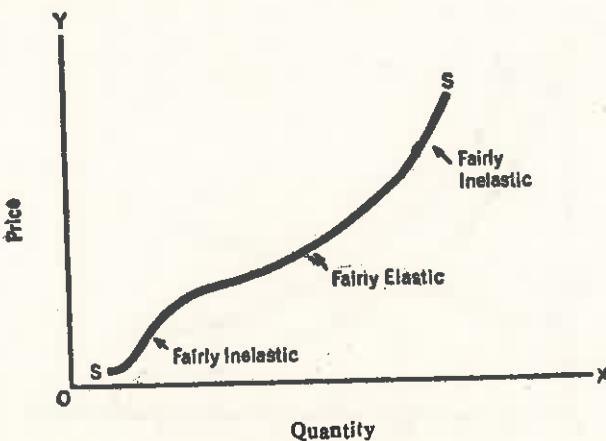

Fig. 35.6. Supply curve with varying elasticity.
- Fig. 35.6 shows a supply curve with varying elasticity i.e., in which elasticity varies over different parts of the same supply curve.